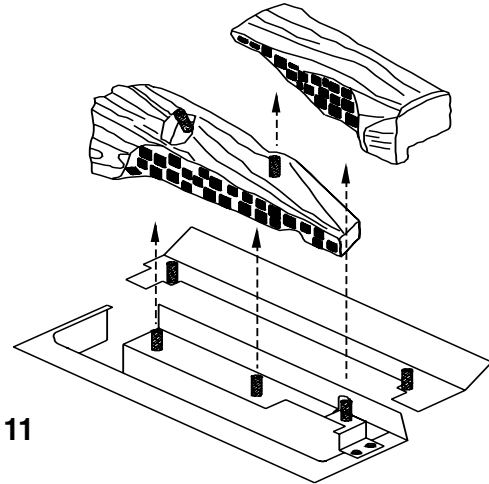

Figure 11
- 3) The left front log has two pegs protruding from the top surface (Figure 11). The charred black with white highlights surface of the log should be facing forward. Slide this log down onto the left front and center front pegs.
- 4) The right front log (positioned with the black charred surface towards the front) should be placed on the peg protruding from the right end of the left front log and the remaining peg at the right end of the metal log support panel (Figure 11).